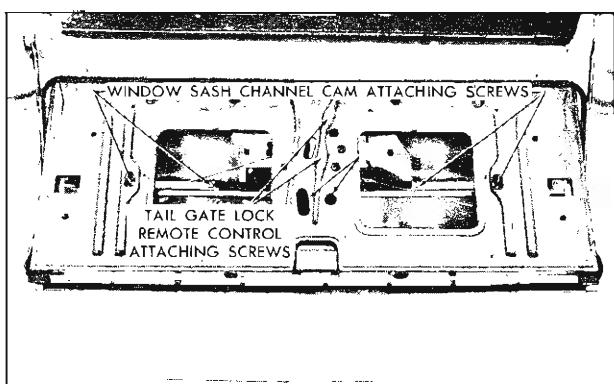

Fig. 5-10 Tail Gate Hardware
2. Detach tail gate inner panel water deflector sufficiently to gain access to window lower sash channel cam attaching bolts (Fig. 5-10). Remove tail gate inner panel access hole covers.
3. Carefully operate window upward until the window lower sash right and left cam attaching bolts are accessible through access holes (Fig. 5-10).
4. Remove window lower sash channel right and left cam attaching bolts (Fig. 5-10) and disengage cams from window lower sash channel. Remove window assembly from tail gate.
NOTE: To open the tail gate on styles with electric windows when window assembly is removed, depress tail gate lock remote control locking lever through access hole at location "A", (Fig. 5-10), and at the same time operate the tail gate remote control inside handle.